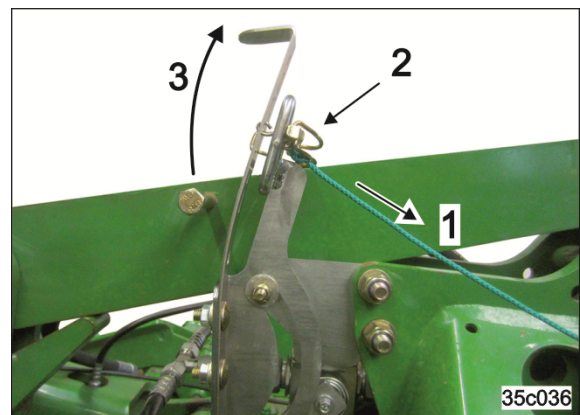

Fig. 141
1. Actuate the white pull rope and pull the eyelet through the hole (Fig. 141/1).
2. Lock the eyelet with the spring cotter pin (Fig. 141/2).
3. The actuation hook is fixed in the front position and is not caught by the actuation bolt (Fig. 141/3).